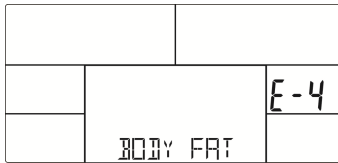

FIG 27
- * E-4 -- Body fat percentage and body mass index below 5 or over 50(Figure 27).